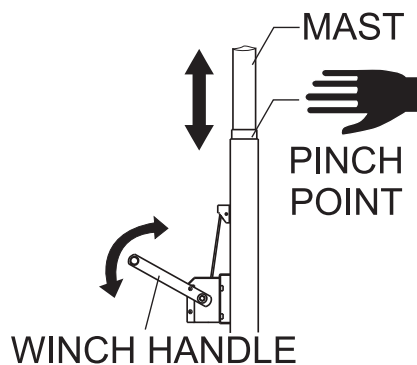

Figure 12. Mechanical Winch Handle
7. Using the mechanical winch (Figure 12), **raise** the mast to the desired height. Turn winch handle clockwise to raise mast.